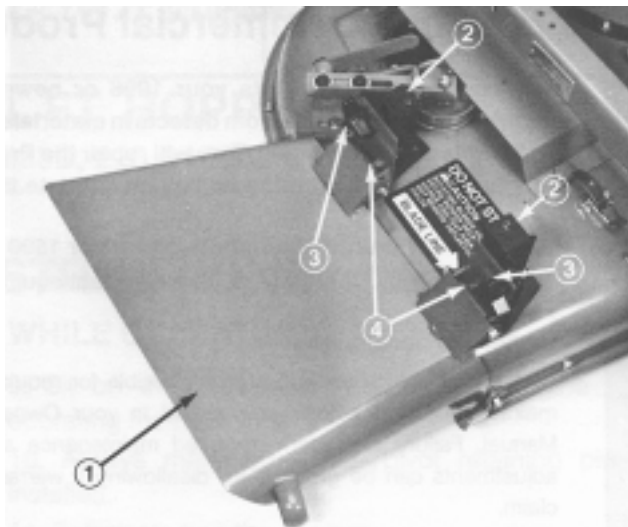

Figure 9
2. Position grass deflector mounts on outside of pivot brackets (included in kit) and secure parts together with capscrews, locknuts and washers previously removed (Fig. 9). Both locknuts must face each other. Tighten locknuts until they are flush against deflector pivots.